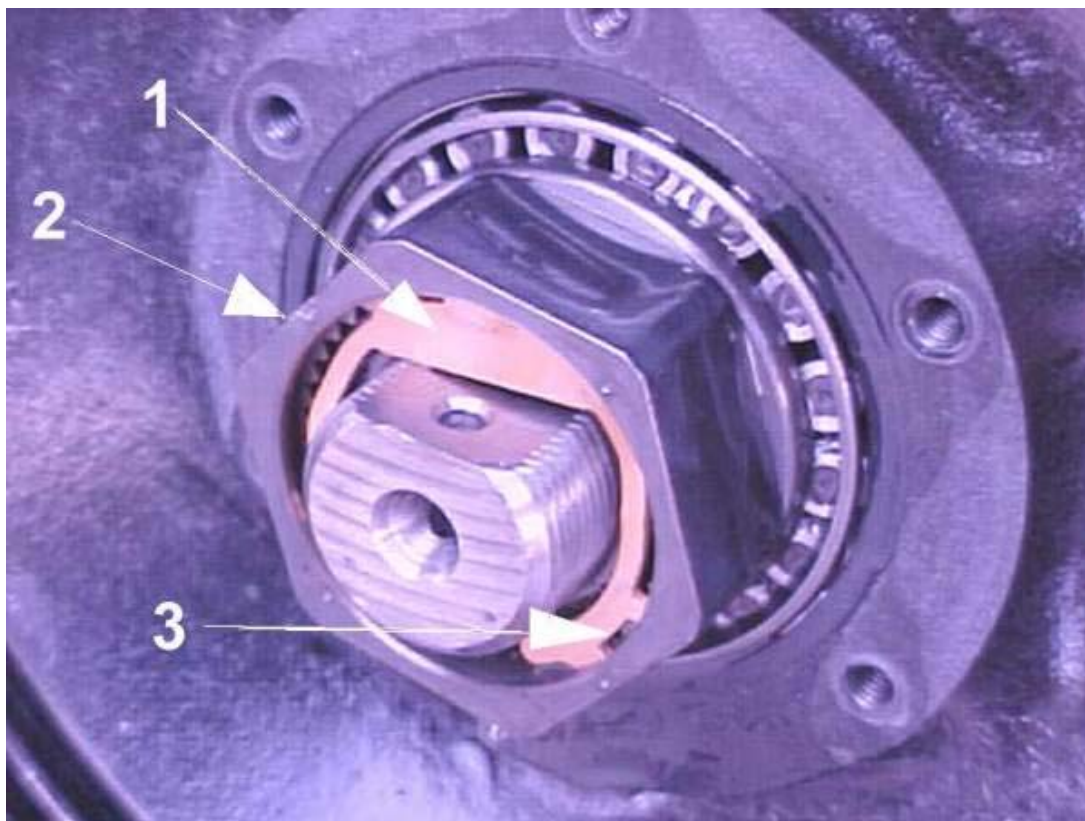

Figure 2 PRO-TORQ® Spindle Nut Assembly
3. Insert a small screwdriver (Figure 2, Item 3) and carefully remove the nut keeper (Figure 2, Item 1) from the internal groove in the nut.